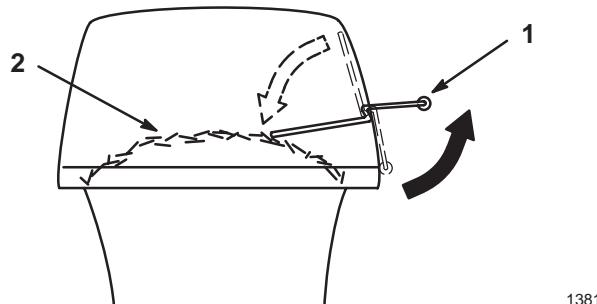

Figure 36
2. To check if both bags are full, periodically raise the full bag tester handle (Fig. 36). If you feel resistance as you raise the handle, the bags must be emptied because they are full (Fig. 36).